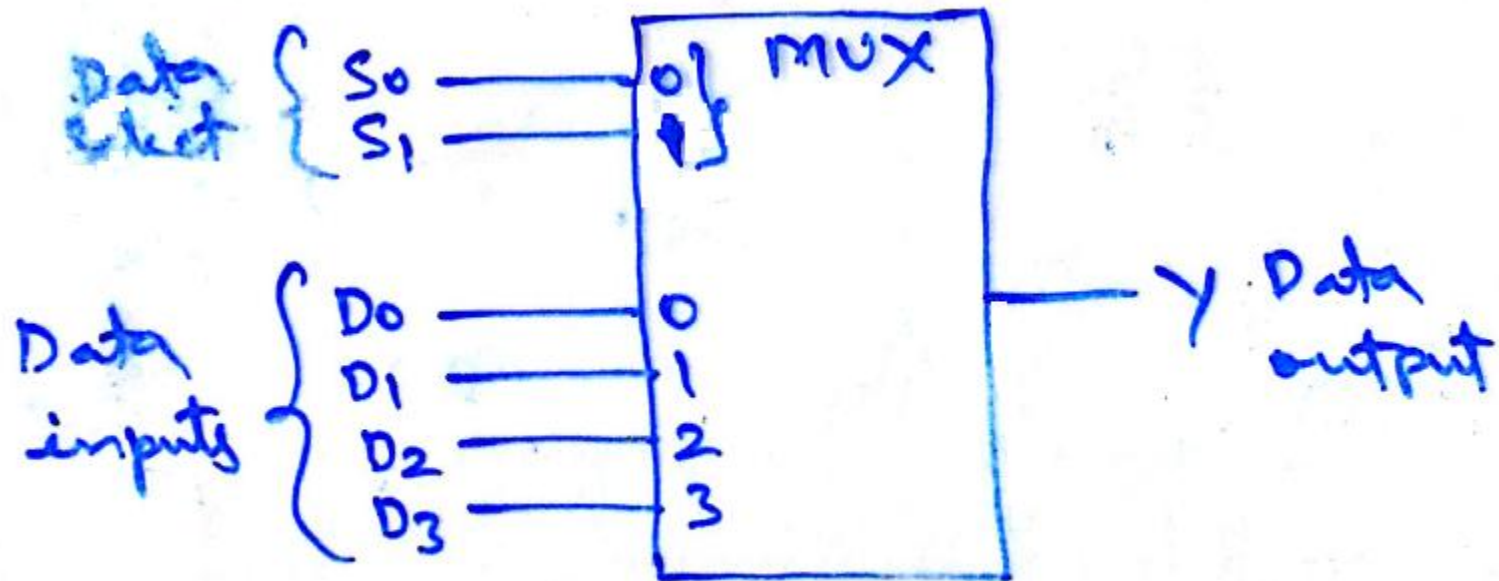

Figure 6-49
- A logic symbol for a 4 input Multiplexer (MUX) is shown in the Figure 6.49